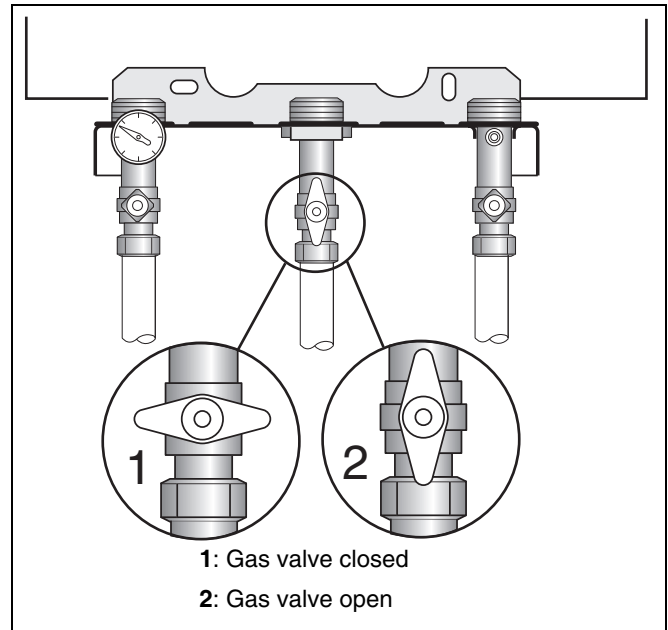

fig. 7 Gas service valve
- Close the gas service valve by turning it clockwise (fig. 7, item 1).
- Close the gas shut off valve (fig. 7, item 1).